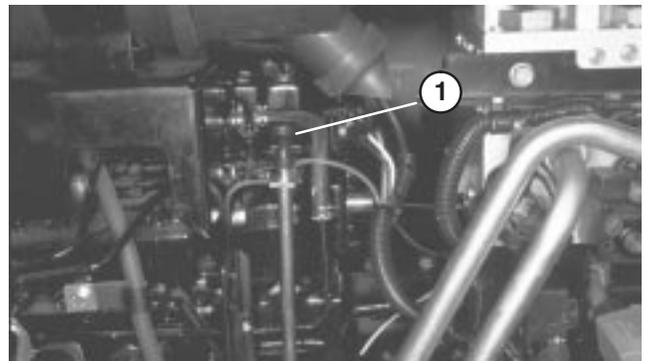
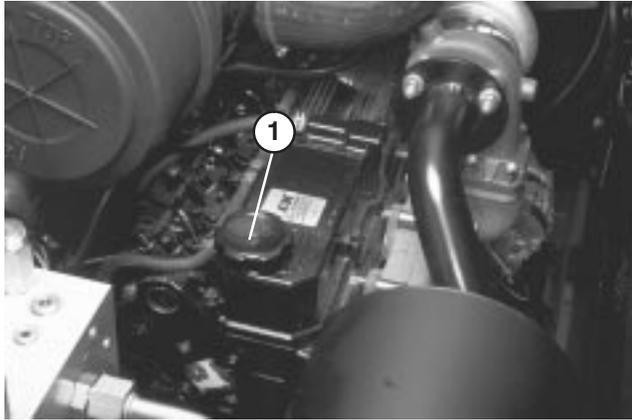

Figure 3
Figure 4
3. Remove dipstick, wipe with a clean rag (Fig. 3) and insert into tube until fully seated. Remove dipstick from tube and check oil level. If oil level is low, remove filler cap (Fig. 4). Add oil until level is to top notch on dipstick. **DO NOT OVERFILL.**